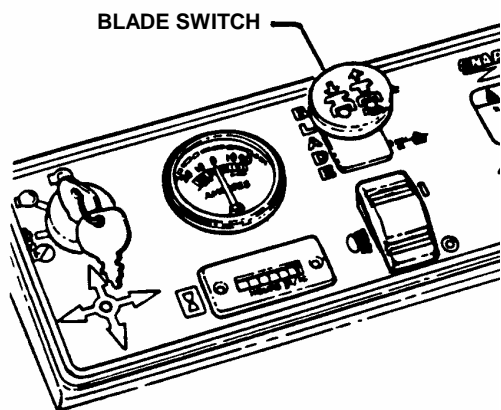
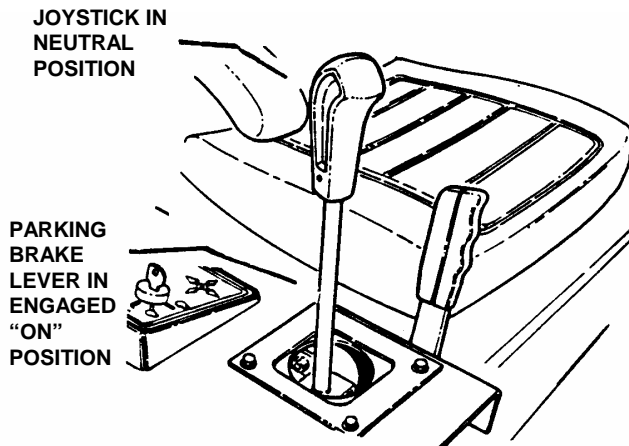

FIGURE 2.2
FIGURE 2.6
2.1.4. Check Blade switch to insure it works freely. Switch is pulled "OUT" for blade engagement or pushed back "IN" for blade disengagement. See Figure 2.2. **IMPORTANT:** Disengagement stops blades.
3. Push blade switch in to "OFF", blades disengaged position and engage parking brake. See Figure 2.2 and Figure 2.6.
2. Pull the Blade Switch out to the "ON" position to engage the mower blades. See Figure 2.2.
NOTE: Motion control lever must be in the Neutral position to engage brake. See Figure 2.6.